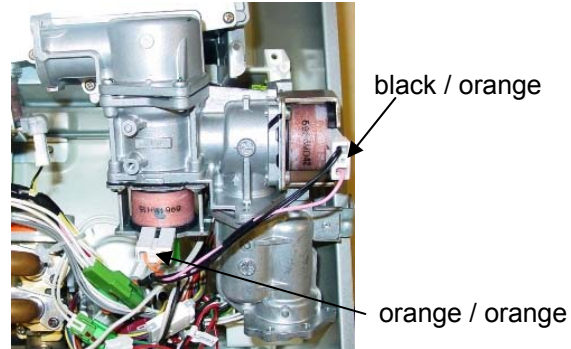

Figure 4
15. Install the gas valve and attach the wire harness to the 2 solenoids. (Figure 4)